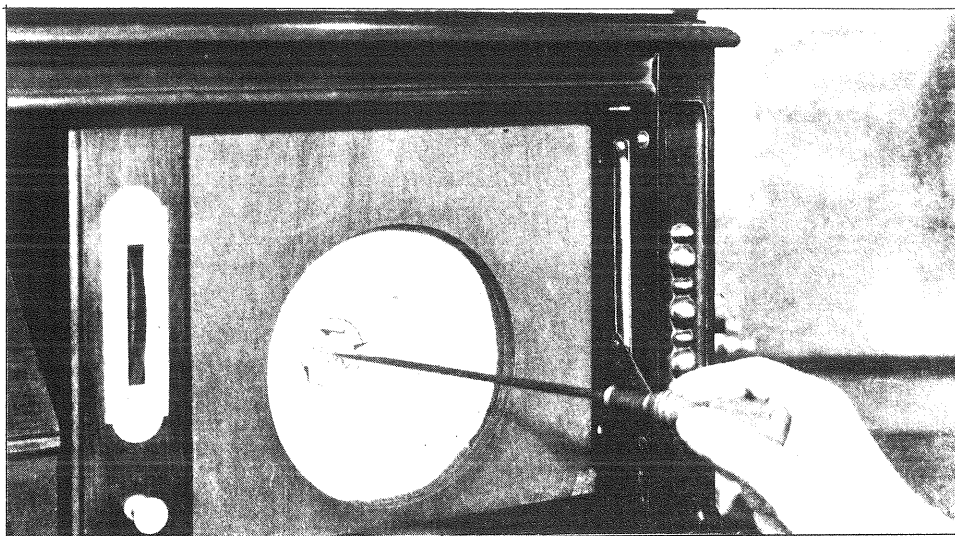

Figure 14—Method of adjusting the cone. Note the three pieces of cardboard used in centering the cone
(c) Insert three small strips of cardboard about $\frac{1}{4}$ " x $1\frac{1}{2}$ " and the thickness of a visiting card, in the space between the inside of the cone coil and the pole piece of the pot magnet. These pieces of card should be placed in the center of the small slots in the webbing of the centerpiece of the cone. They just hold the cone so that it is evenly spaced on all sides. Figure 14 illustrates this operation in adjusting the cone.
- (h) Now insert three small strips of cardboard about $1\frac{1}{2}'' \times \frac{1}{4}''$ and the thickness of a visiting card—through the center web of the cone into the space between the pole piece and cone. This will cause the cone coil to have the same clearance on all sides of the pole piece. Figure 14 shows this operation, but with the pot magnet in its position in the cabinet. Refer to Part II Section 3.
(4) REPLACING DIAL SCALES